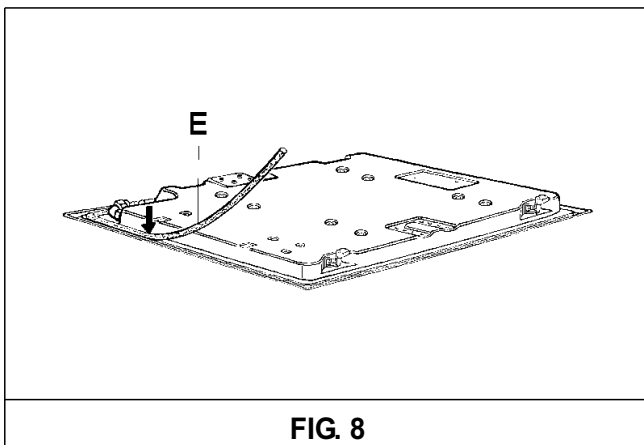

FIG. 8
- Overturn the hot plate and correctly position seal "E" (fig. 8) under the edge of the hot plate itself, so that the outer side of the seal perfectly matches the outer perimetral edge of the hot plate. The ends of the strips must fit together without overlapping.